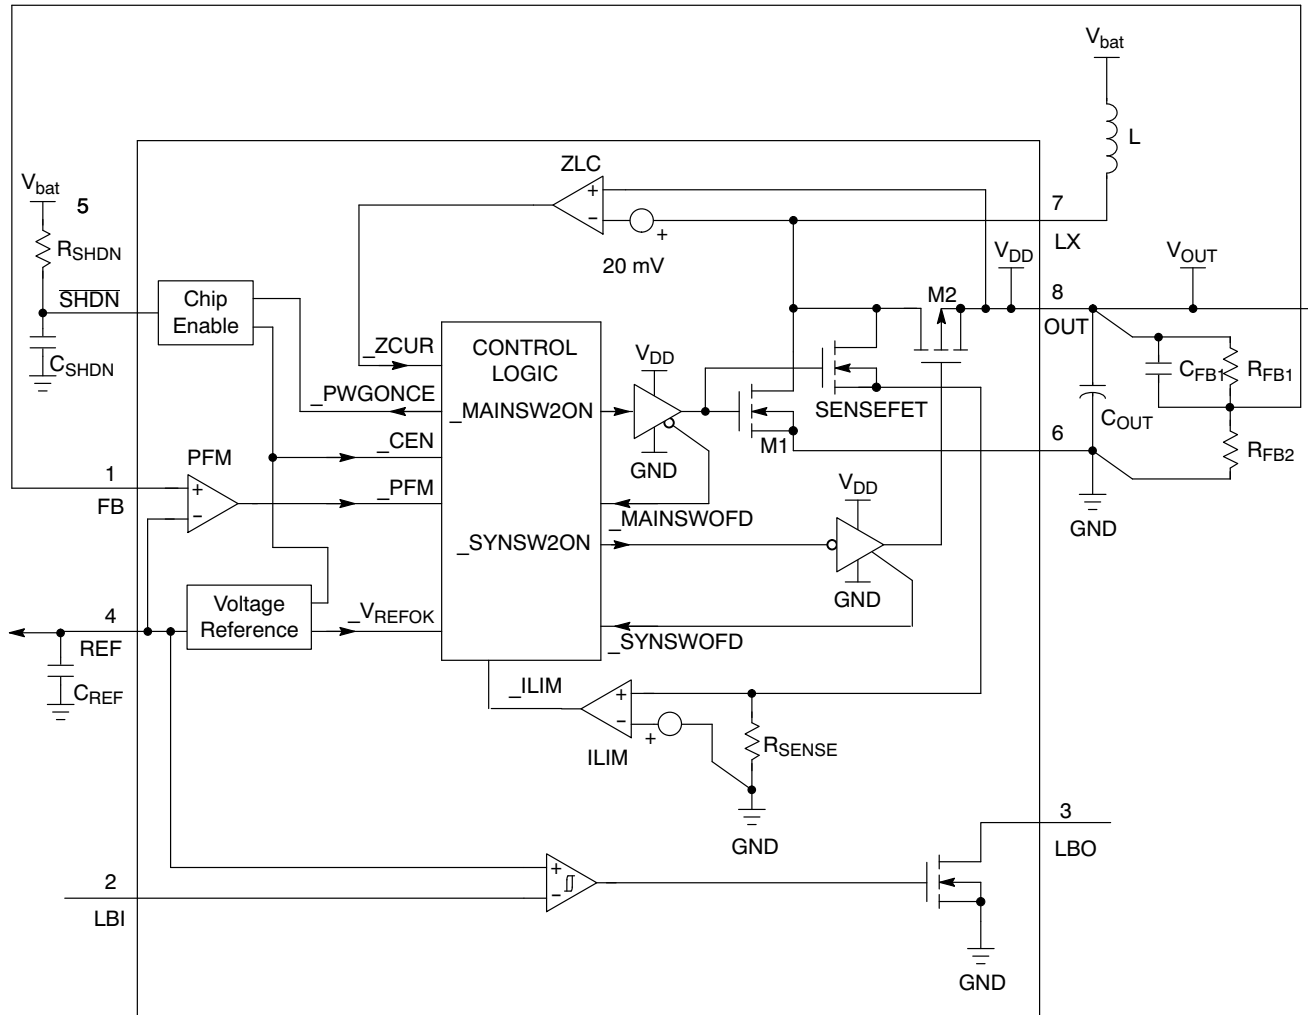

Figure 2. Simplified Functional Diagram
From the simplified Functional Diagram (Figure 2), the output voltage is divided down and fed back to pin 1 (FB). This voltage goes to the non-inverting input of the PFM comparator whereas the comparator's inverting input is connected to REF. A switching cycle is initiated by the falling edge of the comparator, at the moment, the main switch (M1) is turned ON. After the maximum ON-time (typical 1.4 μ S) elapses or the current limit is reached, M1 is turned OFF, and the synchronous switch (M2) is turned ON. The M1 OFF time is not less than the minimum OFF-time (typical 0.31 μ S), this is to ensure energy transfer from the inductor to the output capacitor. If the regulator is operating at continuous conduction mode (CCM), M2 is turned OFF just before M1 is supposed to be ON again. If the regulator is operating at discontinuous conduction mode (DCM), which means the coil current will decrease to zero before the next cycle, M1 is turned OFF as the coil current is almost reaching zero. The comparator (ZLC) with fixed offset is dedicated to sense the voltage drop across M2 as it is conducting, when the voltage drop is below the offset, the ZLC comparator output goes HIGH, and M2 is turned OFF. Negative feedback of closed loop operation regulates voltage at pin 1 (FB) equal to the internal voltage reference (1.190 V).
From Figure 2, SENSEFET is applied to sample the coil current as M1 is ON. With that sample current flowing through a sense resistor, sense-voltage is developed. Threshold detector (ILIM) detects whether the sense-voltage is higher than preset level. If it happens, detector output signifies the CONTROL LOGIC to switch OFF M1, and M1 can only be switched ON as next cycle starts after the minimum OFF-time (typical 0.31 μ S). With properly sizing of SENSEFET and sense resistor, the peak coil current limit is set at 1.0 A typically.
The IC is shutdown when the voltage at pin 5 ($\overline{\text{SHDN}}$) is pulled lower than 0.3 V. During shutdown, M1 and M2 are both switched OFF, however, the body diode of M2 allows current flow from battery to the output, the IC internal circuit will consume less than 0.05 μ A current typically. If the pin 5 voltage is pull higher than 0.6 V, for example, by a resistor connected to VIN, the IC is enabled, and the internal circuit will only consume 9.0 μ A current typically from the OUT pin. Refer to Figure 2, the product of R_{SHDN} and C_{SHDN} must be larger than (500 k \cdot 56 nF, i.e. 28 msec). This is to provide reset pulse for startup as battery is plugged in.